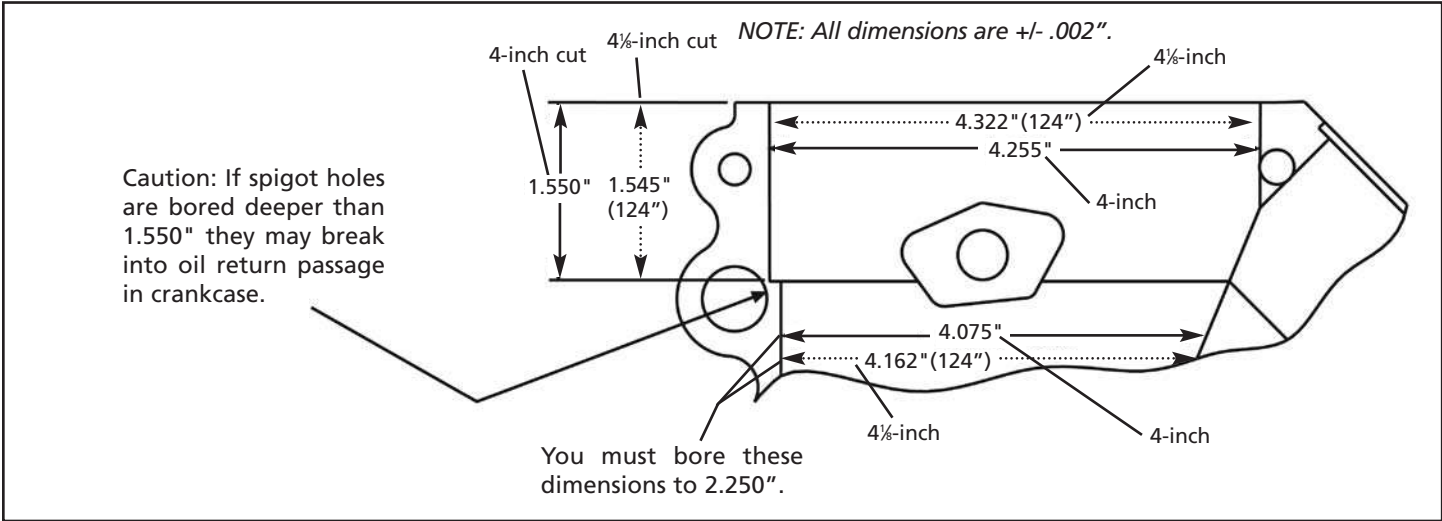

Figure 2
If cylinder spigot holes are bored deeper than 1.550" they may break into oil return passage in crankcase. See Figure 2.
- F. See **Figure 2**. Spigot bore depth can be measured with depth micrometer through window in boring spacer. See **Picture 8**.